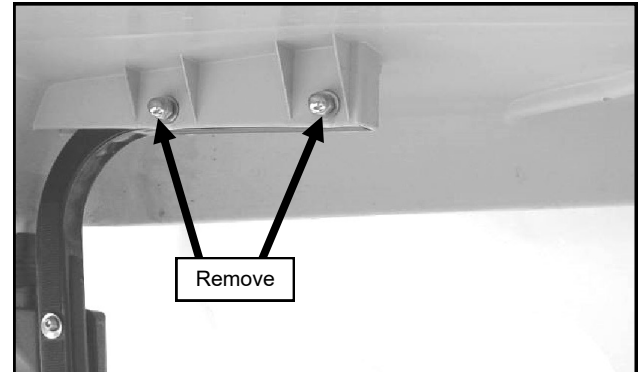

Fig. 1.1 (rear roof bolts - left side)
**1.1** Per figure 1.1, remove and discard the (2) sets of hardware found on the rear half of the factory roof.